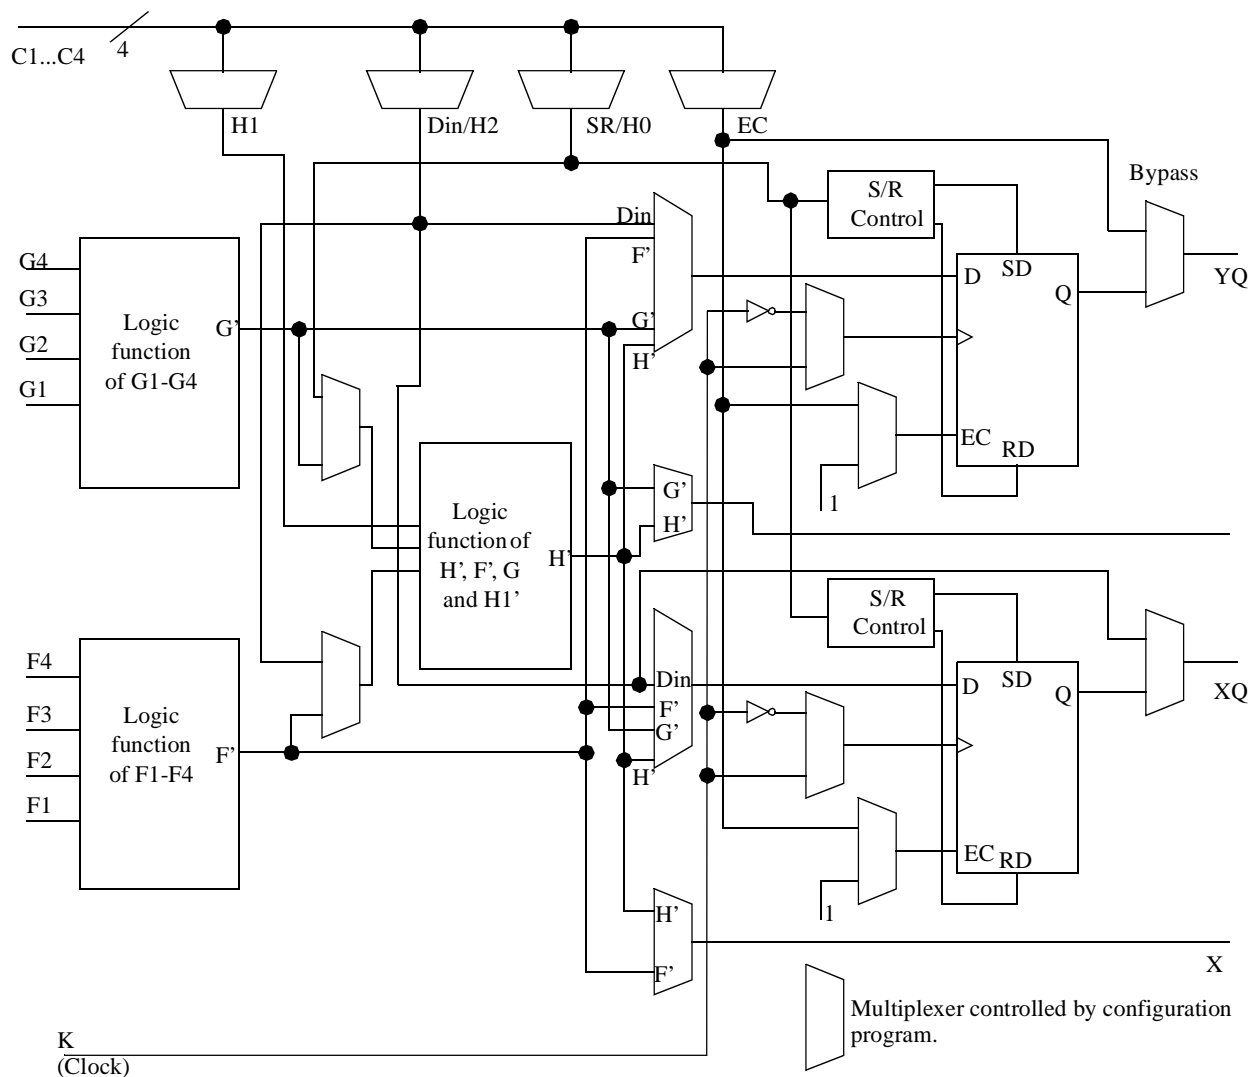

Figure 20 : Logic cell in XC4000 Xilinx FPGA.
- Modern FPGAs are still based on the use of logic blocks -Figure 20.